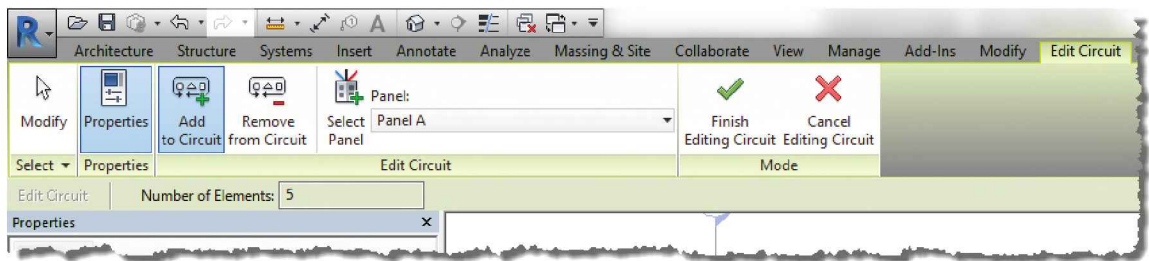

FIGURE 14-3.11 Power circuit; Ribbon and Options Bar settings
29. Set the *Panel* drop-down, on the *Options Bar*, to **Panel A** (Figure 14-3.11).